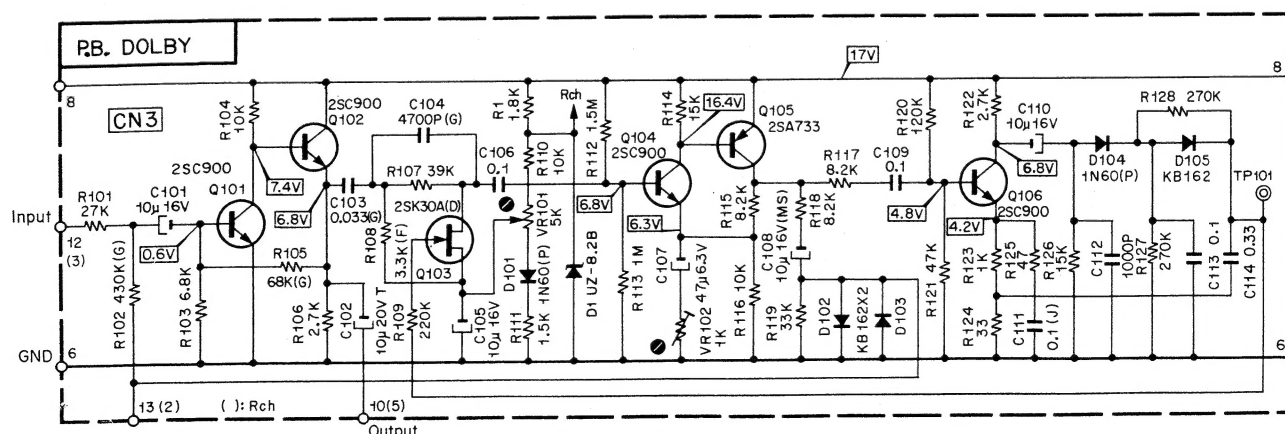

Fig. 2.2.4 Playback Dolby NR Processor Circuit Diagram
Fig. 2.2.4 shows a circuit diagram for a playback mode Dolby NR processor. The input for this circuit is applied through terminal 12 (3) where the output of the playback head amplifier is connected. Terminal 10 (5) is the output of the playback mode Dolby NR processor which becomes the input of the DNL circuit via the MONITOR switch. An input signal through terminal 13 (2) is applied to the DOLBY NR switch. For DOLBY NR IN, this line is open and the signal is fed back to the base of Q101. For DOLBY NR OUT, this line is grounded and no signal is fed back.